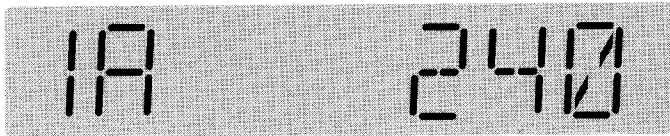

Figure 4-16 Typical Meter Menu Display
Step 3: Use the **Select** pushbutton to enter the selected menu and the first displayed parameter will appear in the **Function Display**. In the case of the **Meter** menu, the display would be **Phase A Current** (Figure 4-16).